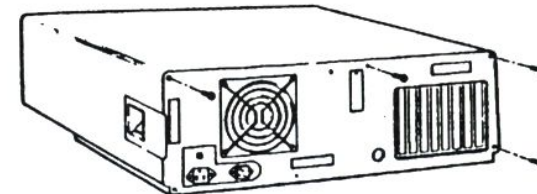

Figure 1
- Remove the five screws on the back of the computer chassis. See Figure 1.